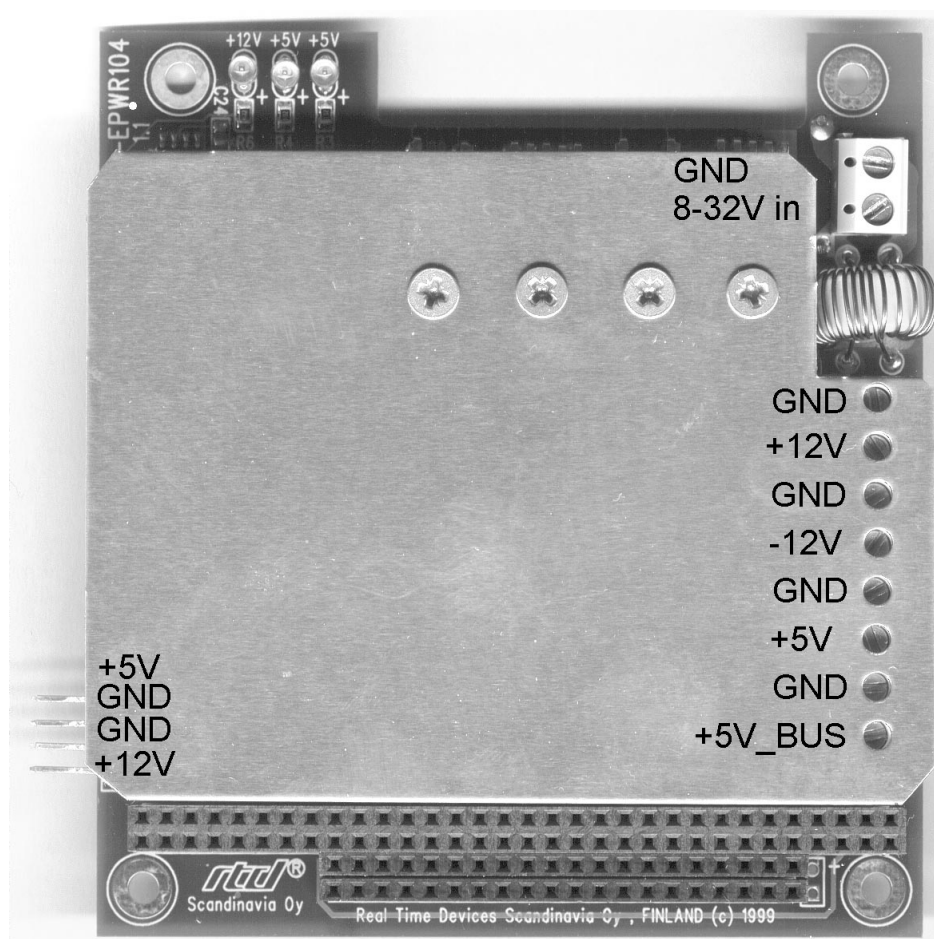

Fig. 1-3b EPWR104HR-2 power supply power connections
- Fig. 1-3b:** EPWR104HR-2 (IDAN-EPWR104HR-2) Power connections